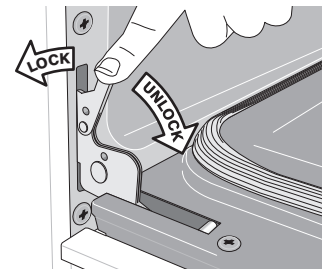

Figure 36: Door hinge locks
2. Pull the door hinge locks on both left and right door hinges down from the oven frame completely towards the oven door (See Figure 36). A tool such as a small flat-blade screwdriver may be required.
4. Push the door hinge locks up towards and into the oven frame on both left and right oven door hinges to the locked position (See Figure 36).